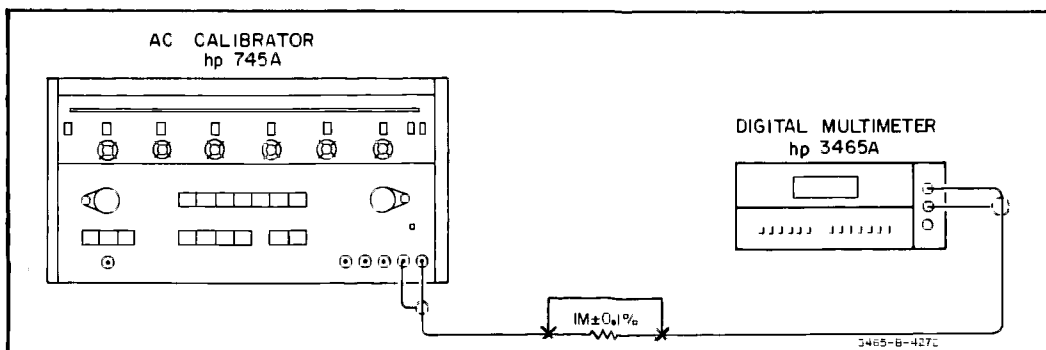

Figure 5-7. AC Voltmeter Input Impedance Test.
a. Connect the AC Calibrator and a $1\text{ M}\Omega$ resistor as shown in Figure 5-7. Connect a jumper across the resistor.